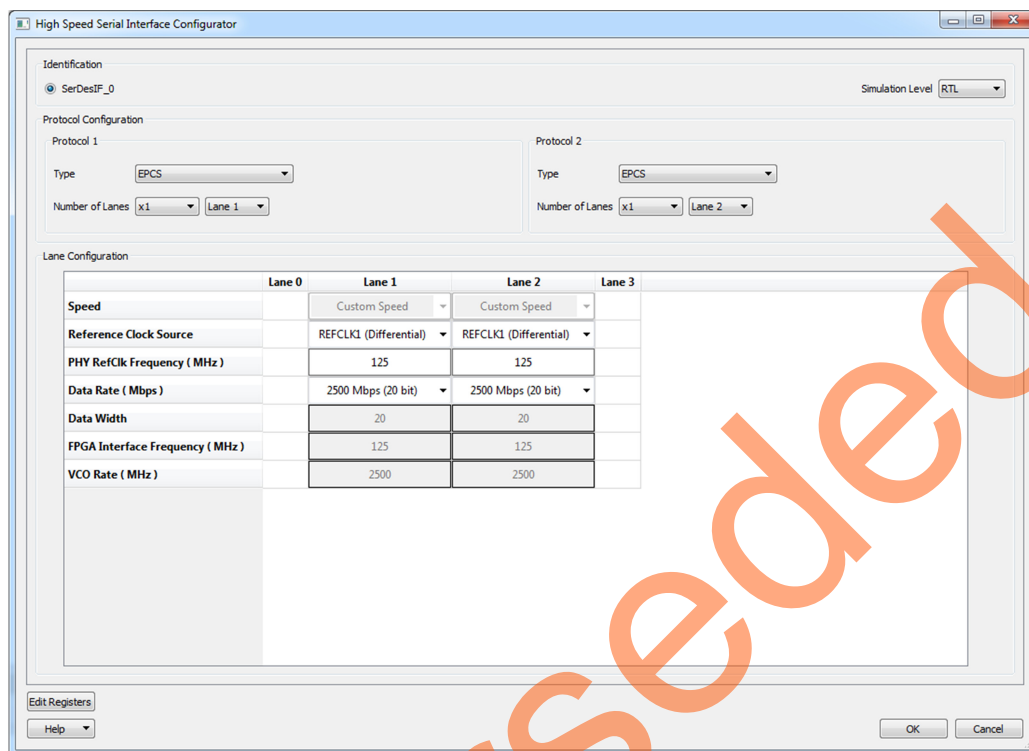

Figure 36 • SERDESIF Configurator Settings
4. Double-click the **SERDES_IF_0** component in the SmartDesign canvas and open the **SERDES** Configurator. Configure the SERDES, as shown in Figure 36.